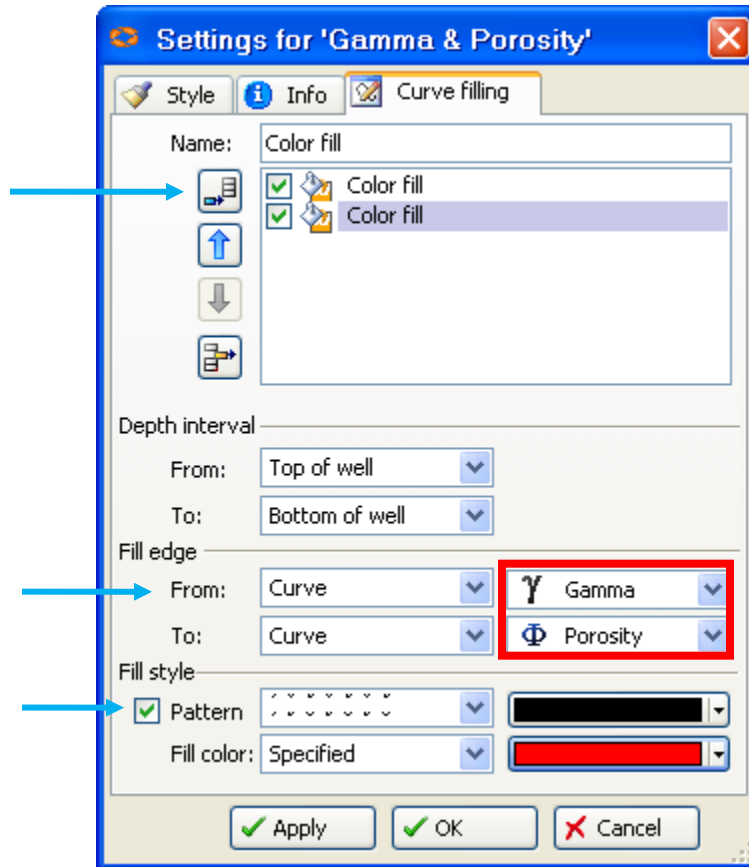

Fig.10.17: Settings for Gamma & Porosity
6. Repeat the same processes that you did before but you have to change from **Gamma - Porosity** to **Porosity -Gamma** as shown in Fig. 10.17. Then press **OK**.